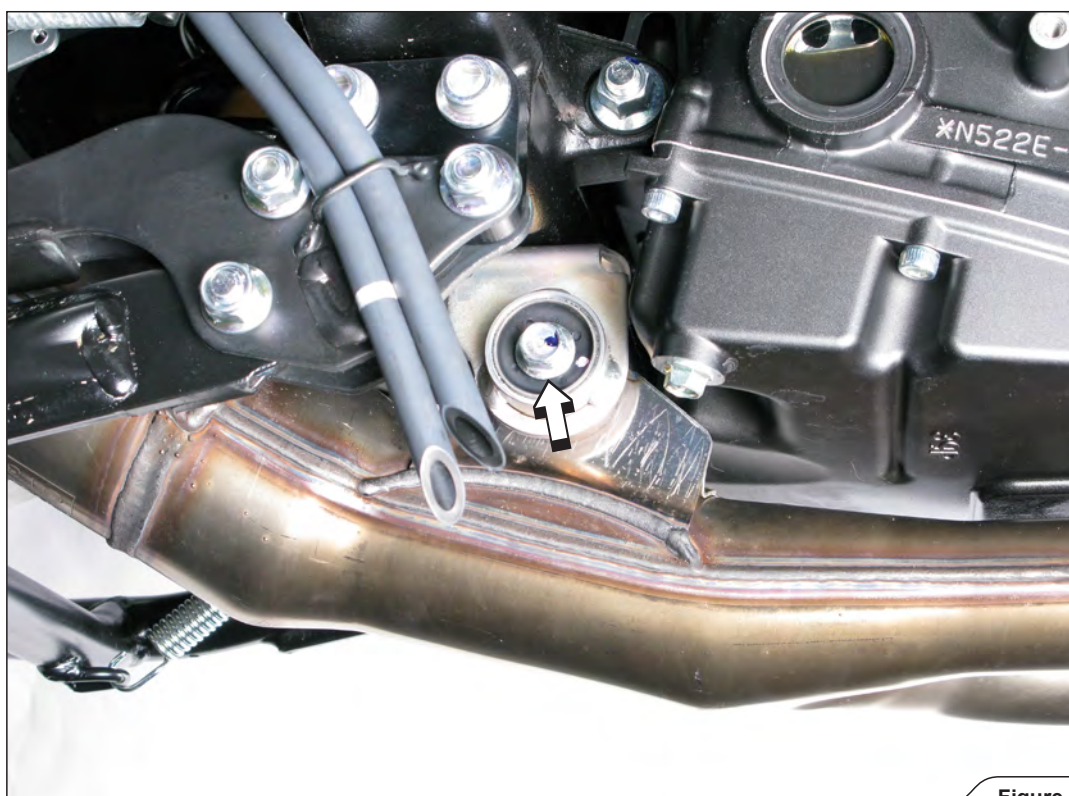

Figure 6
5. **For Akrapovič Racing only:** unscrew the marked stock header pipe bracket bolt (**Figure 6**).